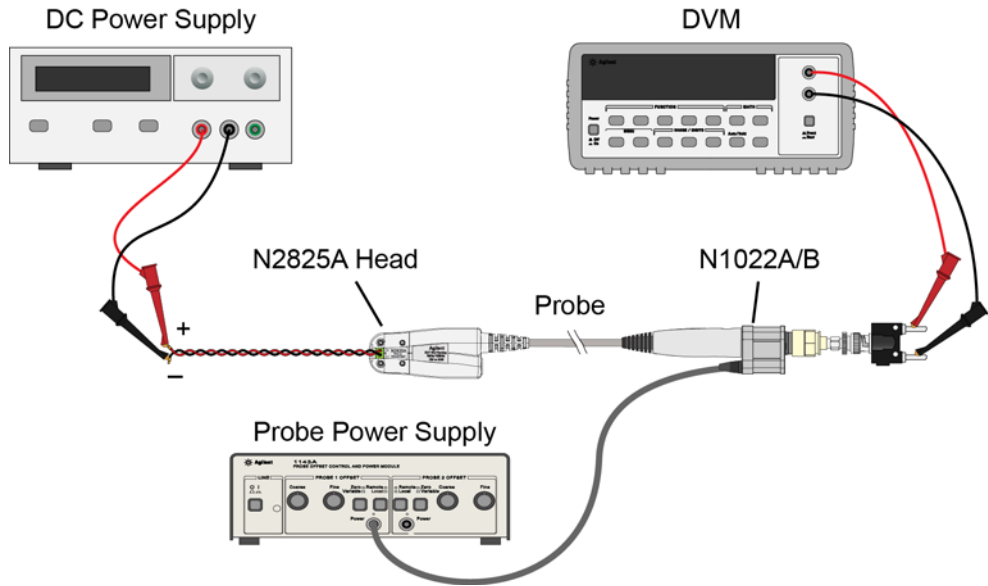

Figure 49 Test Setup for Measuring  $V_{out}$
- 4** Move the multimeter's leads to the banana plug on the output of the N1022A/B as shown in Figure 49.
- 10 Connect the multimeter's leads to the banana plug on the output of the N1022A/B as shown in Figure 49 on page 94.